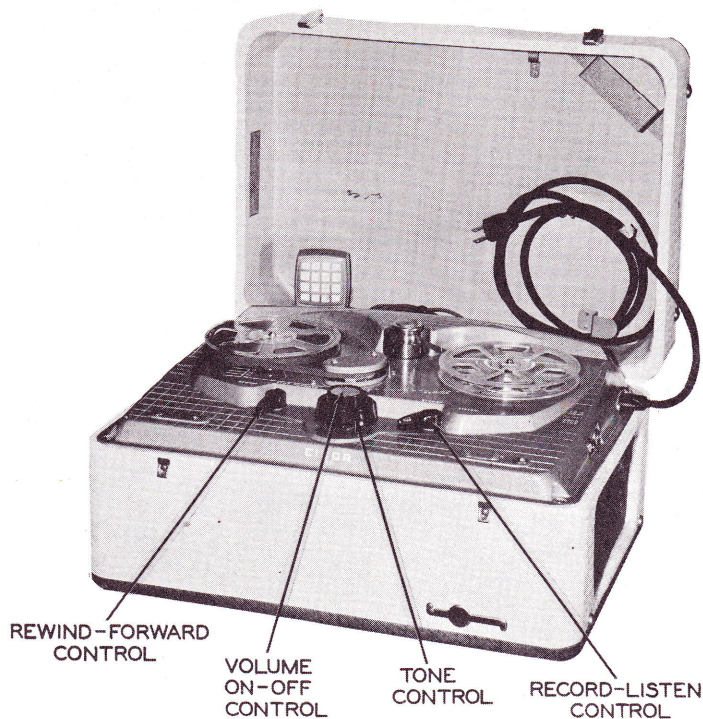

Figure 1
1. Place a reel of tape (either 5" or 7") on the left spindle (23) and an empty reel on the right spindle (43) making sure the reel slots engage the reel pin on the spindles.
2. Thread the tape by following the solid printed line on the top panel (Fig. 1).